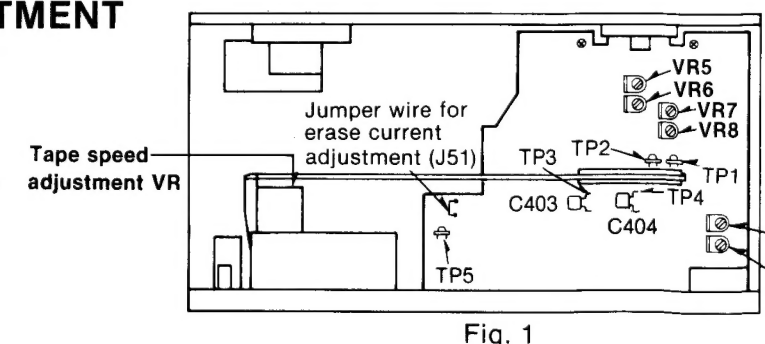

Fig. 1
6. If measured value is not within the standard value, adjust it by using the tape speed adjustment VR shown in fig. 1.
1. If the measured value is not within the standard, adjust VR1 (L-CH) or VR2 (R-CH) (See fig. 1).